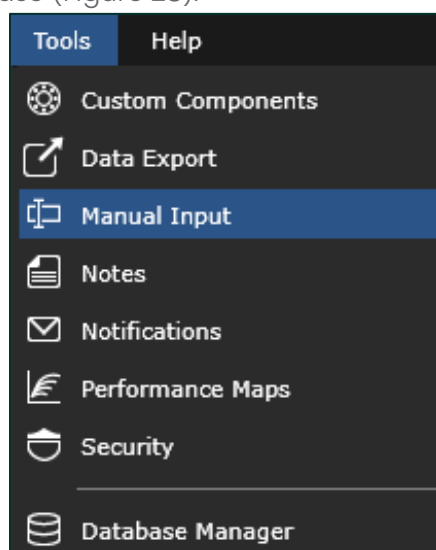

Figure 28: Launching Manual Input Dialog from Tools Menu
2. Launch the dialog from the Tools > Manual Input menu. This will load the Manual Input dialog with all manual tags within the database (Figure 28).